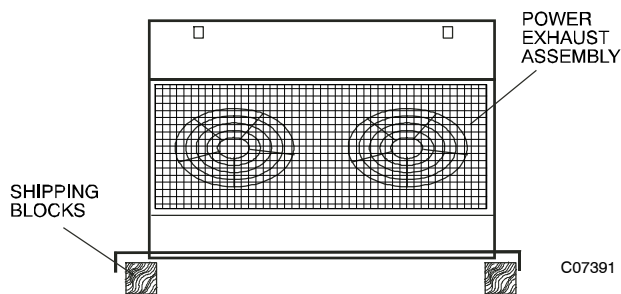

Fig. 2 - Shipping Block Removal
3. Remove the shipping blocks from the bottom of the accessory vertical power exhaust. (See Fig. 2.)